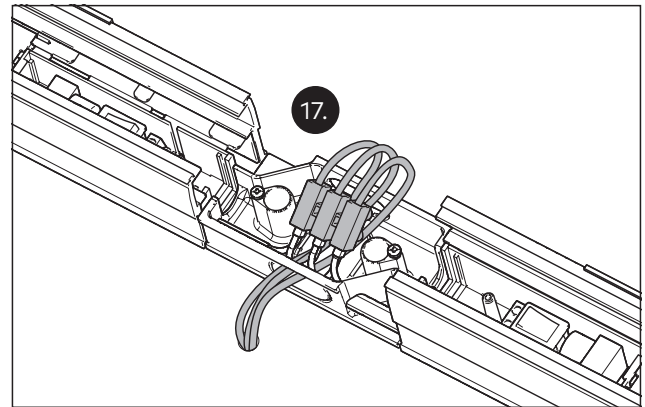

Fig. 23 Connect the connection cable to the Y-cable
- 17.** Connect the Y-cable to the mains connection cable and route it so that it cannot become trapped (Fig. 23).